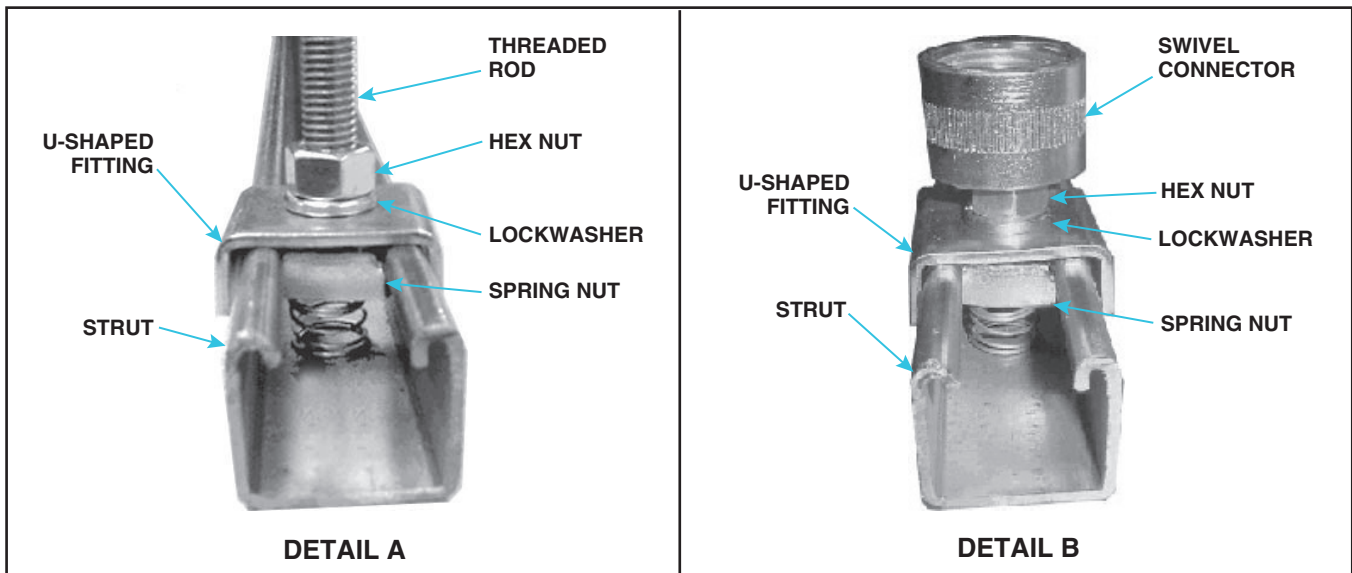

Figure 7. Suspension-Mounting
- **Suspending the heater using threaded rods (see Figure 7, DETAIL A):**
- **Suspending the heater from 1-inch pipe using swivel connectors (option CK10, see Figure 7, DETAIL B):**